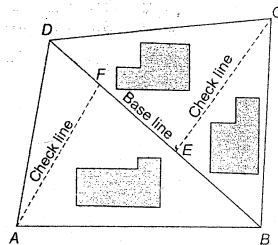

Fig. 3.2 Framework of triangles in chain surveying
In Fig. 3.2, line BD is the base line. Two triangles viz. ABC and BCD are built on the base line. The five sides AB , AD , BD , CD and BC are measured in the field and the requisite details are located by offsets. While plotting on a drawing sheet, base line is drawn first. Any point (say A) is then fixed by drawing an arc equal to AD from A and AB from B and finding the point of intersection. Similarly point C is located by arcs CD from C and BC from B . Thus the required plan is plotted by linear measurements only.
- After plotting the plan from the survey lines, the length of the check line is scaled off from the drawing and compared with the measured line in the field. If there is no error then length of the check line as measured from the plan should confirm to measured value in the field. In Fig. 3.2, line CE and AF are the check lines.